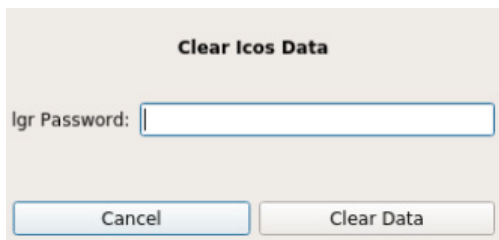

Figure 47 Clear Icos Data Dialog-Box
- 2 Click **Clear Icos Data**: The *Clear Icos Data* dialog-box shown in Figure 47 will appear.